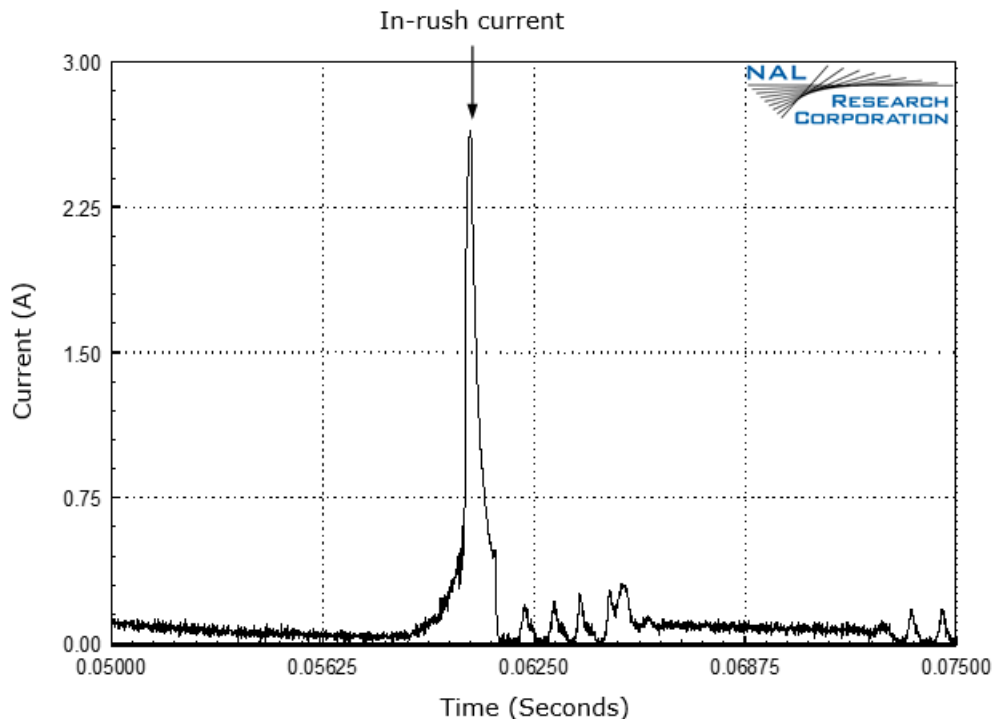

Figure 23: In-Rush Current Spike During Power-Up: Command Mode (5 VDC Input)
Power consumption of the 9602-BTI can be divided into distinct operating segments: (1) power up, (2) standby, (3) sleep between reports, (4) GPS acquisition, and (5) SBD report transmission. When turned on in command mode, typical in-rush current of approximately 3 A–4 A over a few milliseconds is mainly due to the current drawn by the 9602 (see **Figure 23**).